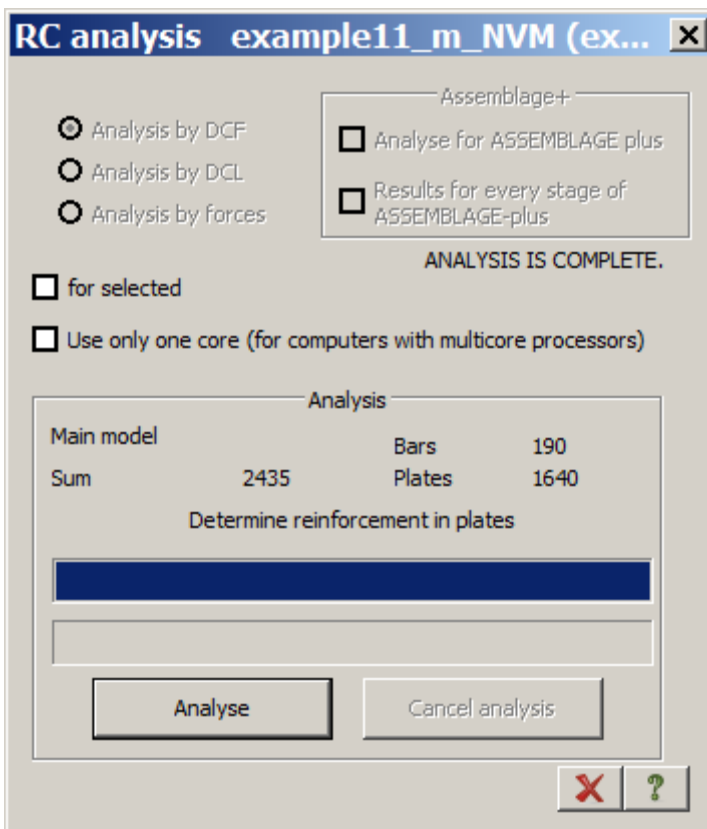

Figure 11.35 RC analysis dialog box
- ⇒ In the **RC analysis** dialog box (see Fig.11.35), click **Analyse**.